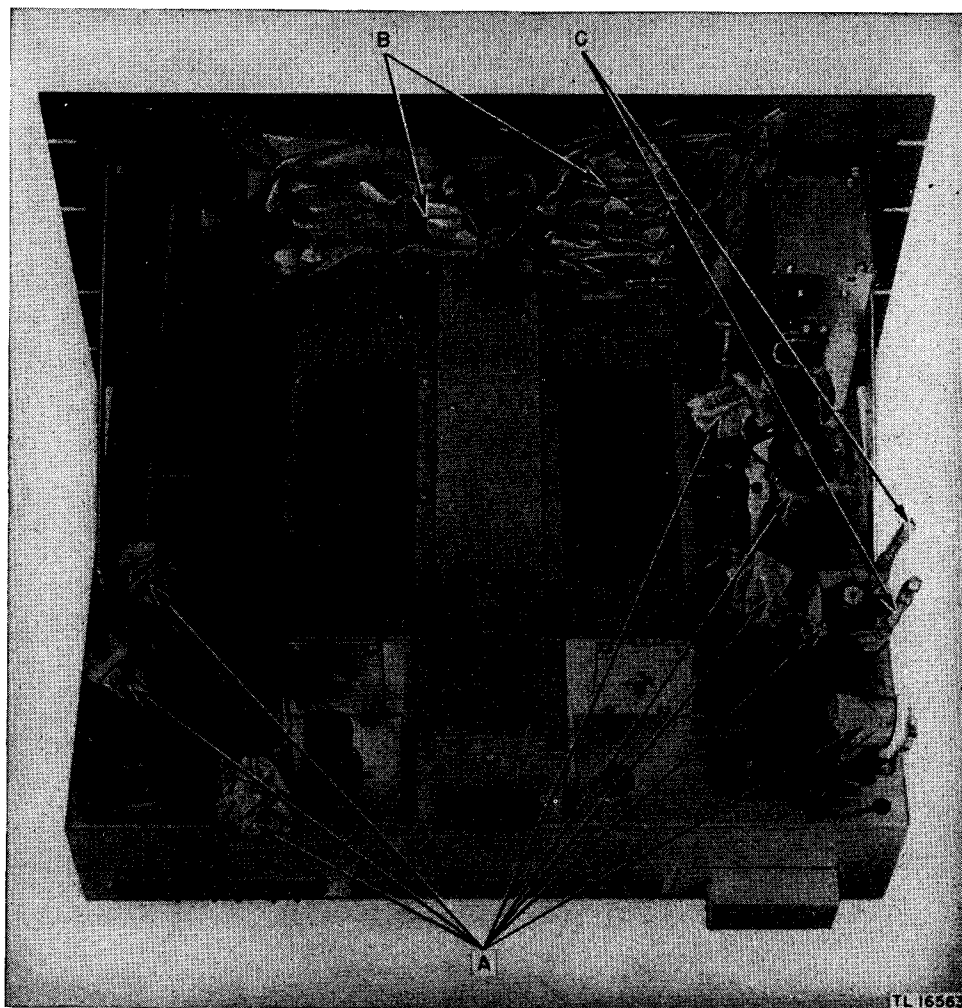

Figure 20. Radio Receiver BC-1004-C, top view of chassis, showing masking.
(figs. 20 and 21)
(1) Eight capacitors on transformers T2, T3, T4, T5, and T6 (A, fig. 20).
(2) Drive gears and tuning mechanism (B, fig. 20).
(3) Supporting shafts on coil-capacitor assemblies (C, fig. 20).